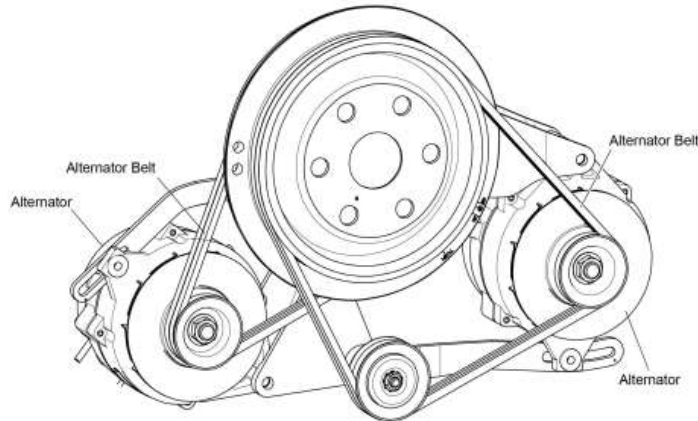

Figure 1
- A. Examine the alternator belts (Figure 1) for any cracks, damage, or wear.